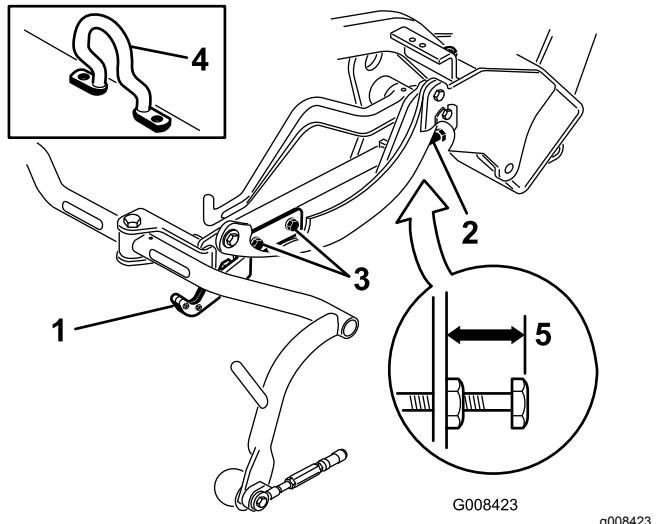
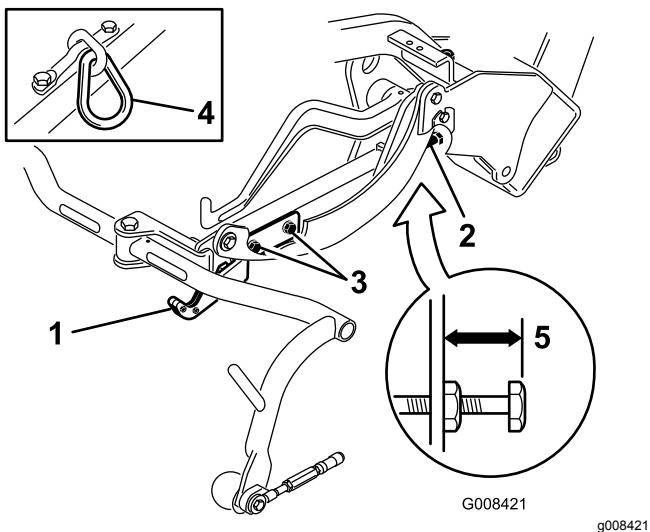
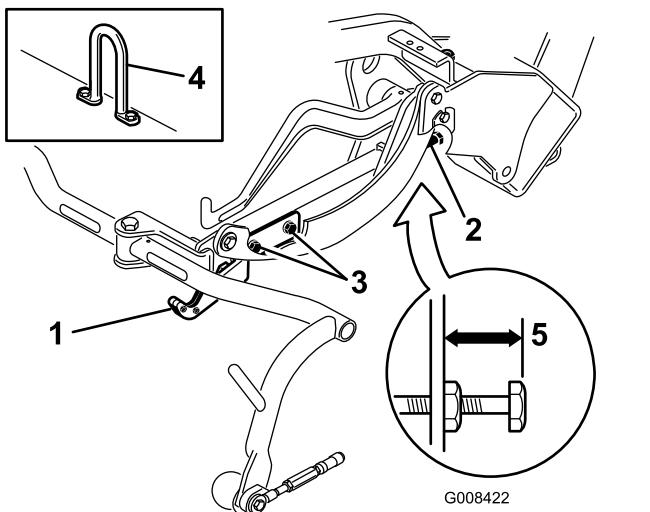

Figure 12
Figure 13
Figure 14
Check the transport height (Figure 13 and Figure 14) and adjust it if required.
2. On cutting units equipped with a offset lift hook (Figure 12 inset), verify that the distance from the top of the carrier frame adjusting screw to the back of the carrier frame is 25 mm (1 inch). If the distance is not 25 mm (1 inch), go to step 4.
3. On cutting units equipped with a chain link or a straight lift hook (Figure 13 and Figure 14 insets), verify that the distance from the top of the carrier frame adjusting screw to the back of the carrier frame is 22 mm (7/8 inch). If the distance is not 22 mm (7/8 inch), proceed to step
4. If the cutting unit is equipped with an offset lift link (Figure 12), proceed to the next step.
4. Loosen the transport plate mounting screws (Figure 13, Figure 14, and Figure 12).
7. If the carrier frames are not at the same height, loosen the jam nut on the carrier frame adjusting screw (Figure 12, Figure 13, and Figure 14). Rotate the screw outward to raise and inward to lower. Tighten the jam nut after you obtain the proper height.